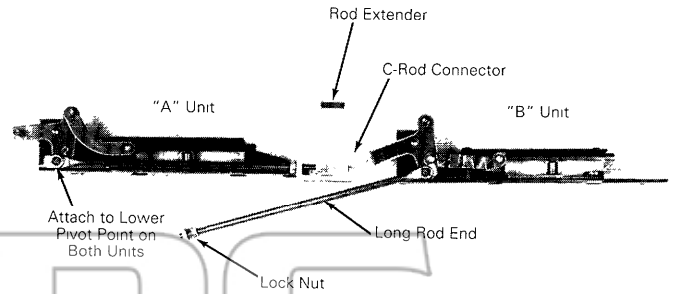

Figure 8. Attachment of the interconnection rod to the compartment units for a horizontal installation. The view is from the rear of the compartment
- For a horizontal installation, attach the long rod ends to the pins on the pivots as shown in Figure 8. A variety of connecting hardware is provided in the Mechanical Interlock kit; the 1/4-20 threaded rod is supplied by the customer.